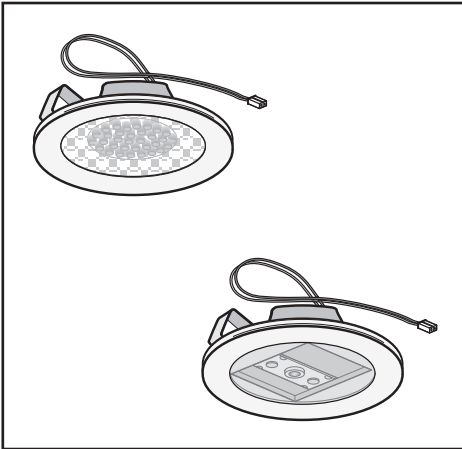

Fig.8
• Replacing LED lamps (Fig.8):